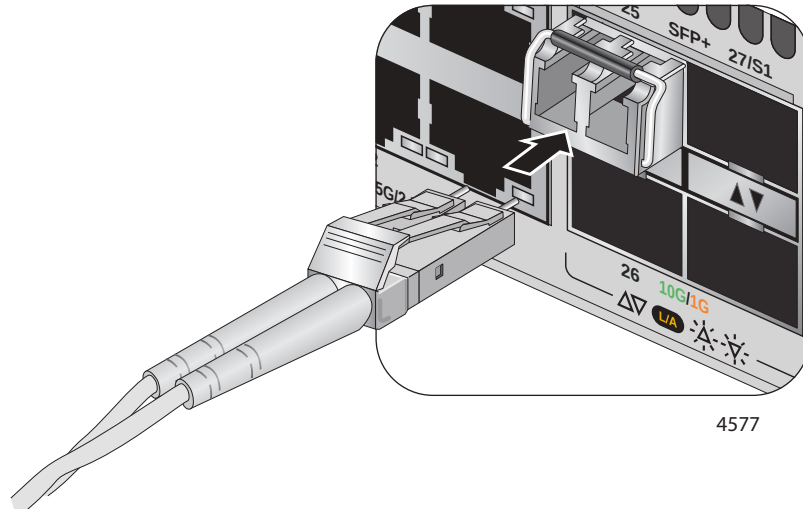

Figure 53. Connecting a Fiber Optic Cable to an SFP or SFP+ Transceiver
6. Connect the fiber optic cable to the transceiver, as shown in Figure 53. The connector on the cable must fit snugly into the port, and the tab must lock the connector into place.